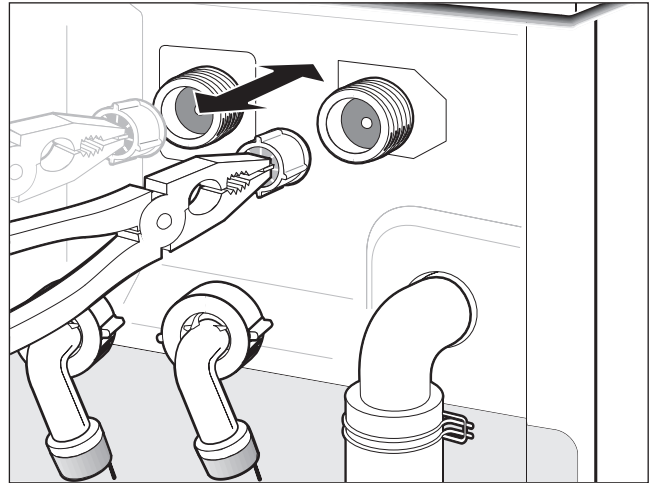

Figure 19.
6. Use a pair of pliers to remove the filter. Clean the filter and replace it inside the hose connection. See Figure 19.